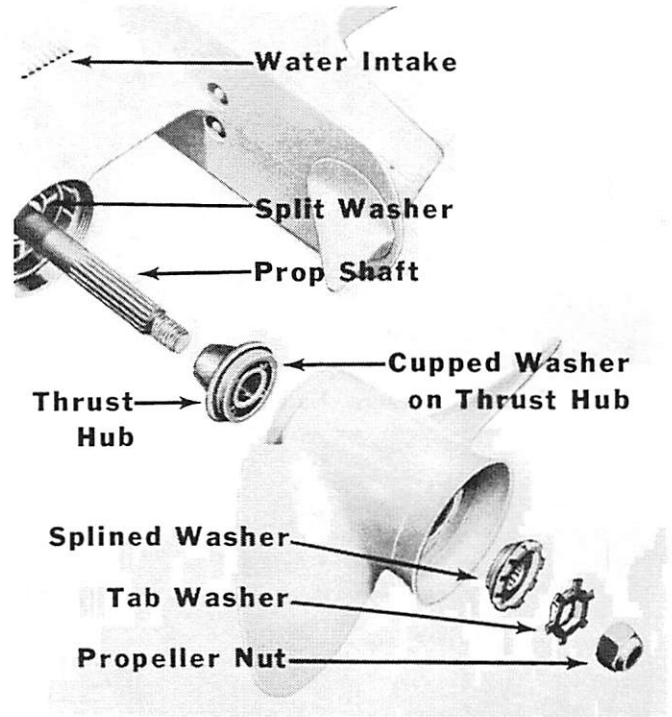

Figure 17. Propeller Installation
I. Installing Propeller (Figure 17)
2. Apply thin coat of MULTIPURPOSE Quicksilver Lubricant (C-92-35226) on splines of propeller shaft. (Figure 17)